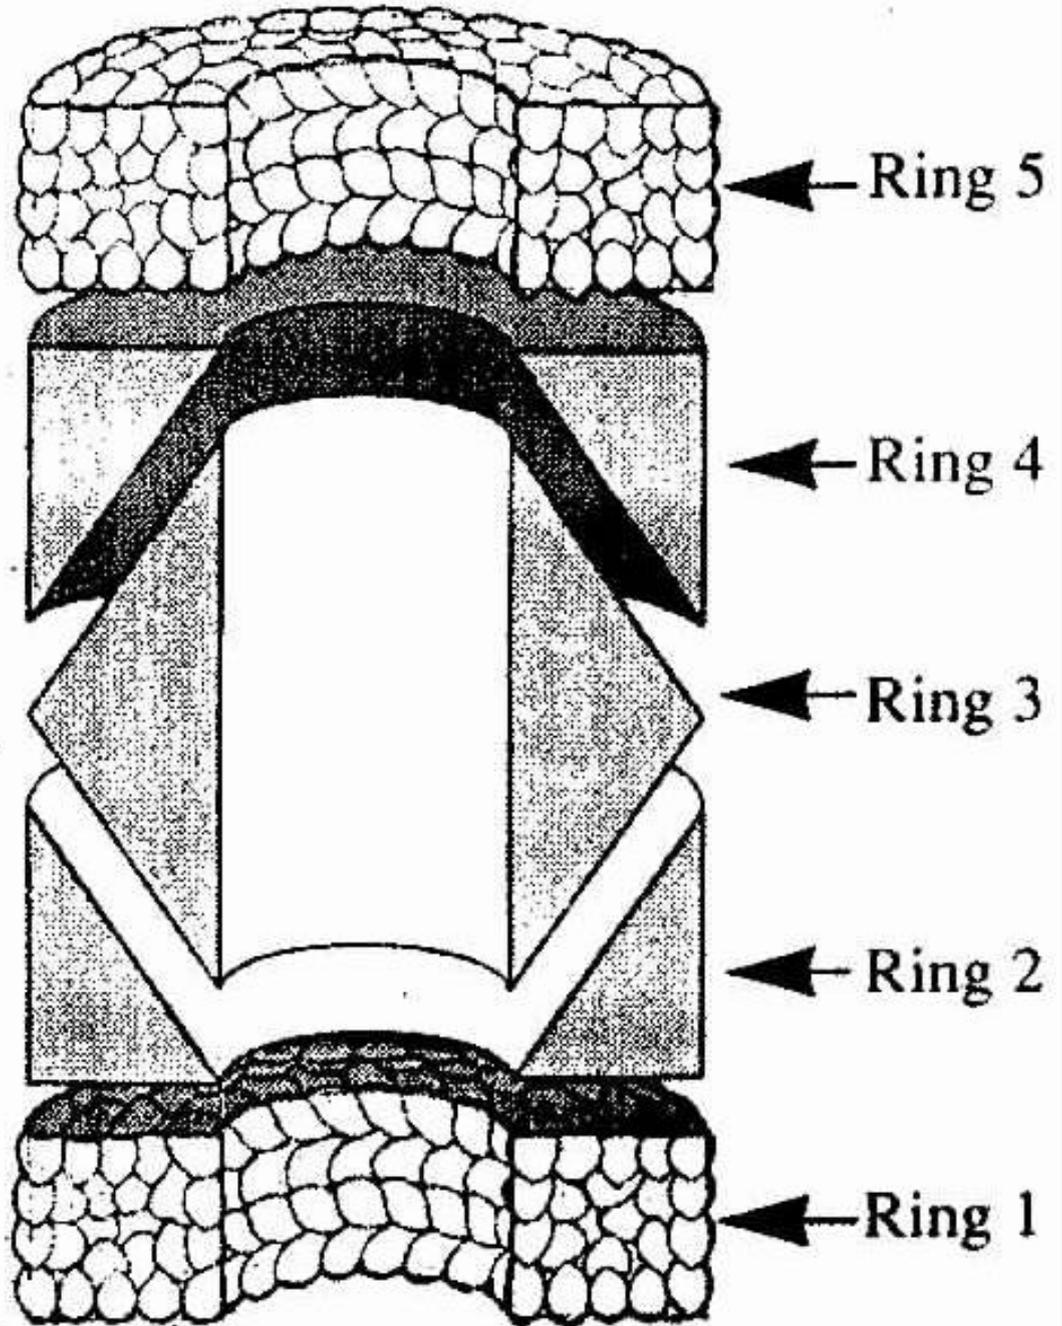

**Fig.5 Packing Set Arrangement**
## 13.0 Gland Seal Replacement (Refer to Figs 5 & 6)
13.12 Tighten the gland nut down to the setting dimension shown in Fig. 5.